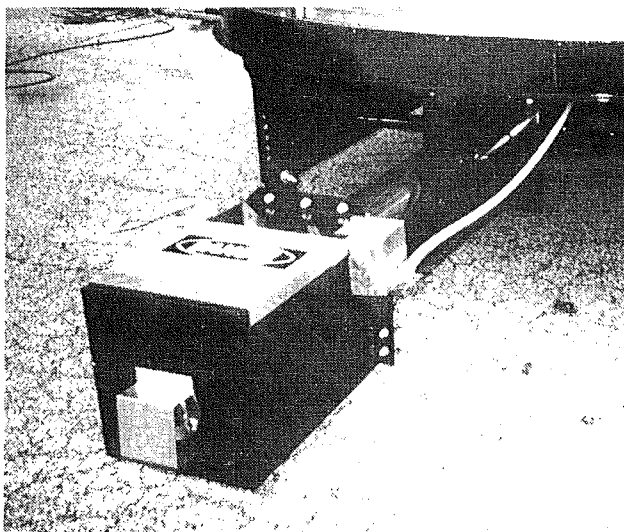

Figure 22
1. If the customer supplied grain take away system fails, the dryer will continue to discharge grain until the rear discharge overload door, Figure 22, is raised by the grain.